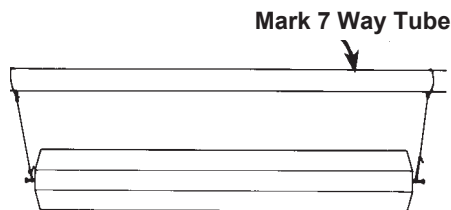

Figure D-41
2. To do this, drive a standard 8-penny nail straight into each center. Use suitable string to hang the stock in a level position from the front bench tube of the Mark 7 or a saw horse. The ends of the string should be looped around the nails. See Figure D-41. Gravity will pull the heavy side down. Use a jointer, bandsaw or hand plane to remove no more than $1/32"$ at a time from the heavy side until the stock remains stationary when rotated to three positions 90 degrees apart.